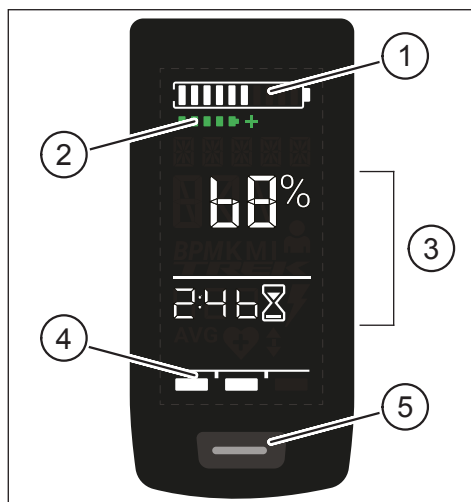
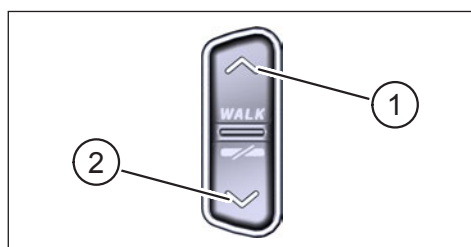

Fig. 1: Operation and indication components on Display
Fig. 2: Operation on the Remote
Pos. in Fig. 1	Description
Pos. in Fig. 2	Description
- ▶ Press and hold the button on the Display (pos. 5 in Fig. 1) and the DOWN button on the Remote (pos. 2 in Fig. 2) for at least 5 seconds.
- With a **short** press on the button on the Display (pos. 5 in Fig. 1) you switch to the next screen view.
- Press the DOWN button on the Remote control (pos. 2 in Fig. 2).